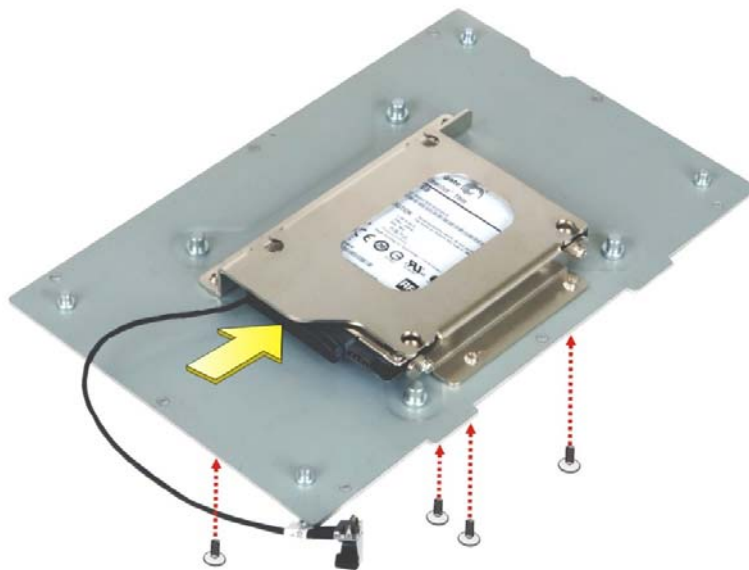

Figure 3-4: HDD Installation
- Step 5:** Connect the SATA cable connector to the HDD (**Figure 3-4**).
- Step 7:** Reinsert the four previously removed retention screws (**Figure 3-4**).